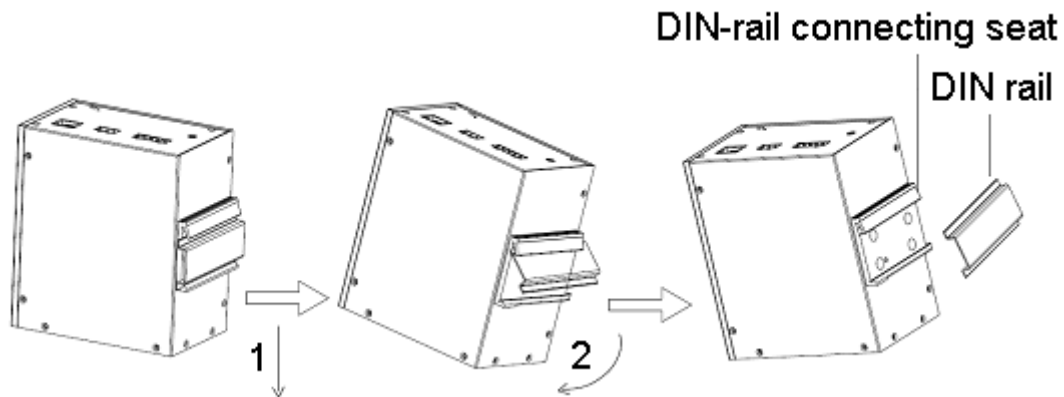

Figure 10 DIN-Rail Dismounting (integrated device)
Step 1: As shown in Figure 10, press the switch downward in the direction of arrow 1 to ensure adequate space at the bottom for detaching.